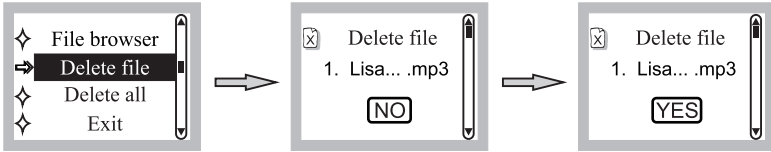

Fig. 26
- (2) Delete File: Press **▶|** to enter the “Delete file” screen. Press **◀◀** or **▶▶** to select “NO” or “YES”. Press **▶|** to confirm, Fig. 26.